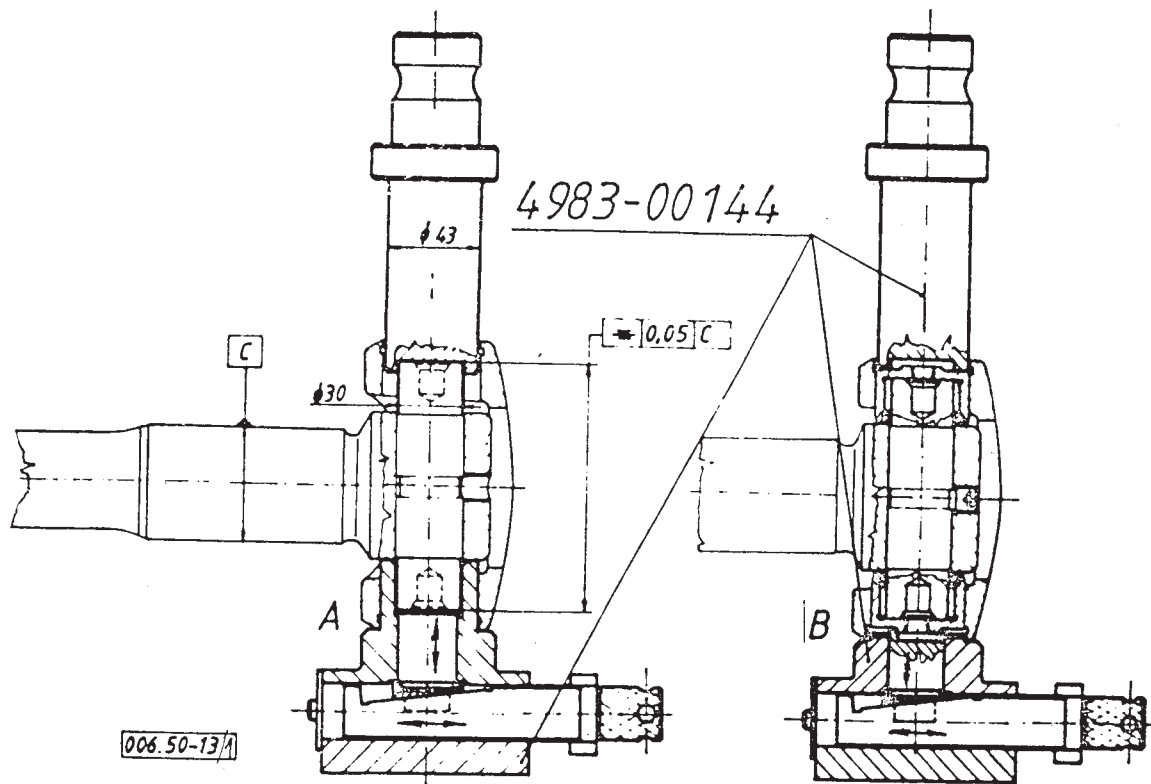

Fig. 3.
Properly backing up the axle-shaft, start the knuckle pin out of the axle-shaft by means of the thrust pin of the tool shown in Fig. 3., then drive out by a mandrel of diameter less than 30 mm (Fig. 2.).
Install the proper axle-shaft into the spider and press in the knuckle pin to center position as shown by "A" in Fig. 3.
Adjustment of the mean position can be performed by rotating the adjusting spindle of the device and by adjusting the movable wedge or its support pin (Fig. 3.).
According to detail "A" of Fig. 3. use proper backing and press the bearing cap assembly to one side, then install a "standard" 2.075 mm thickness blue colored snap ring into the groove. By backing up as shown in detail "B" of Fig. 3., press the bearing cap assembly to the other side and install here also the "standard" 2.075 mm thickness blue colored snap ring into the groove.
Place the spacer sleeve (6) in the spindle (35). By means of the tools shown drive in the cylindric roller bearing (Fig. 3.).